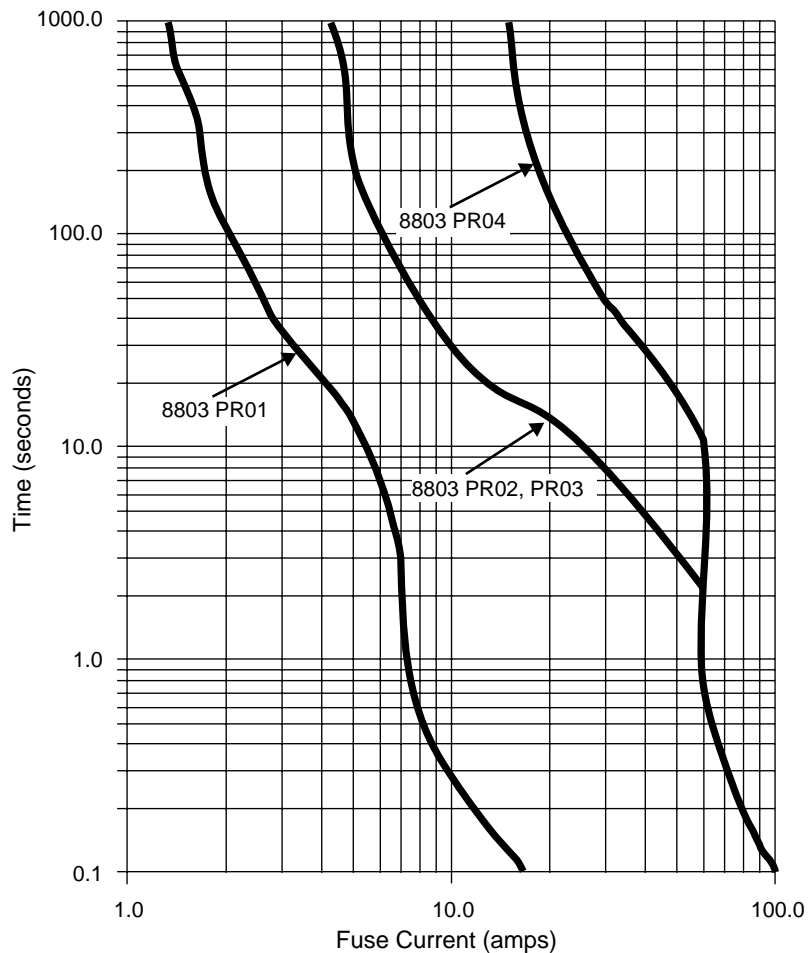

Figure 5-5 Fuse Current vs. Melting Time
Figure 5-5 shows the melting time vs. current for the fuses in the dynamic braking resistor kits (8803 PR01, PR02, PR03 and PR04).
- As shown in Figure 5-5 on page 81, fuse will pass approximately 6.2 A for 5 seconds before tripping. This limits the resistors to 3844 W for 5 seconds instead of 6000 W calculated in the previous step.